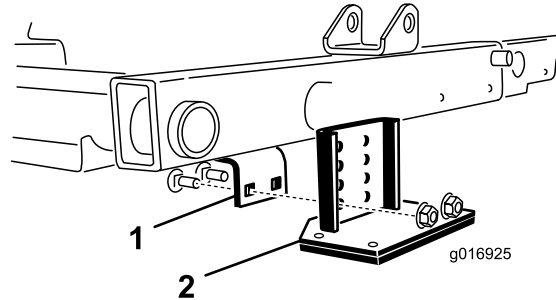

Figure 30
2. Locate the frame bracket above the center cutting unit (Figure 30).
3. While pressing down on the front roller of the center cutting unit, determine which holes on the tipper bracket align with the frame bracket holes to attain the same roller contact when the tipper bracket is installed (Figure 30).
4. Lower the cutting units and mount the tipper bracket to the frame with the 2 carriage bolts and 2 nuts supplied with the kit (Figure 30).